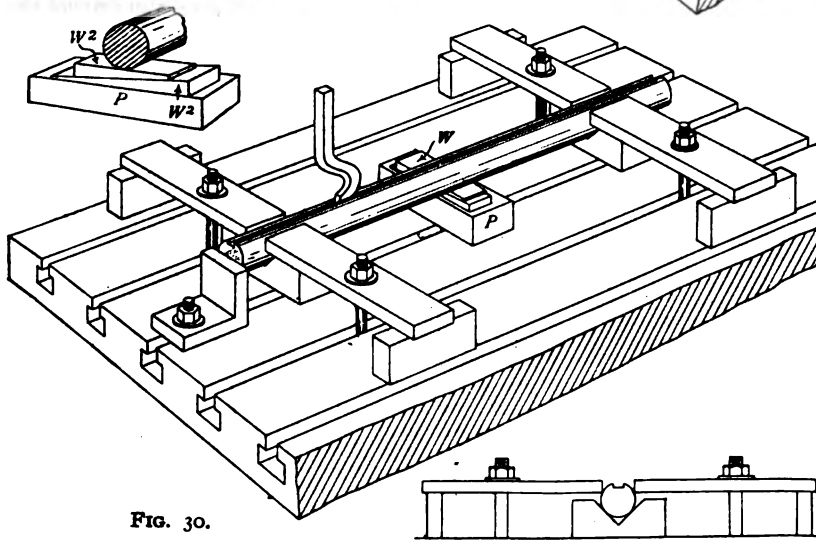

FIG. 30.
arrangement of pairs of plates adjusted to press equally on either side of the centre line (Fig. 30), just sufficient space being left between the ends of the plates for the tool to pass. The shaft is shown supported in the centre as previously referred to. A block of iron (P) is placed under the shaft midway between the V-blocks to support it; a thin wedge (W), or pair of wedges (W2 in small sketch), may be used to make up any difference between the height of P and the underside of the shaft.